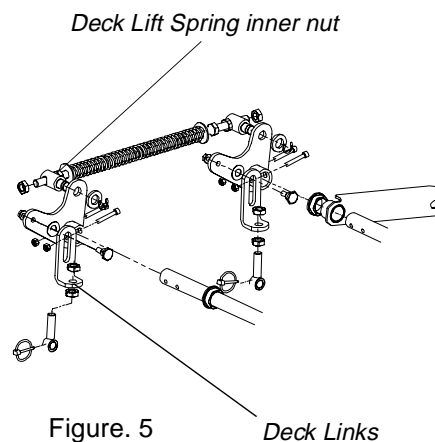

Figure. 5 Deck Links
- c. If the dimension at the front of the mowing deck is 1/8"-1/4" lower than the dimension at the rear of the deck on each side of the mower, do not adjust. If not, you will need to adjust the Deck Lift Spring Assist (See Figure 5). You may also need to adjust the Deck Links (See Figure 5).